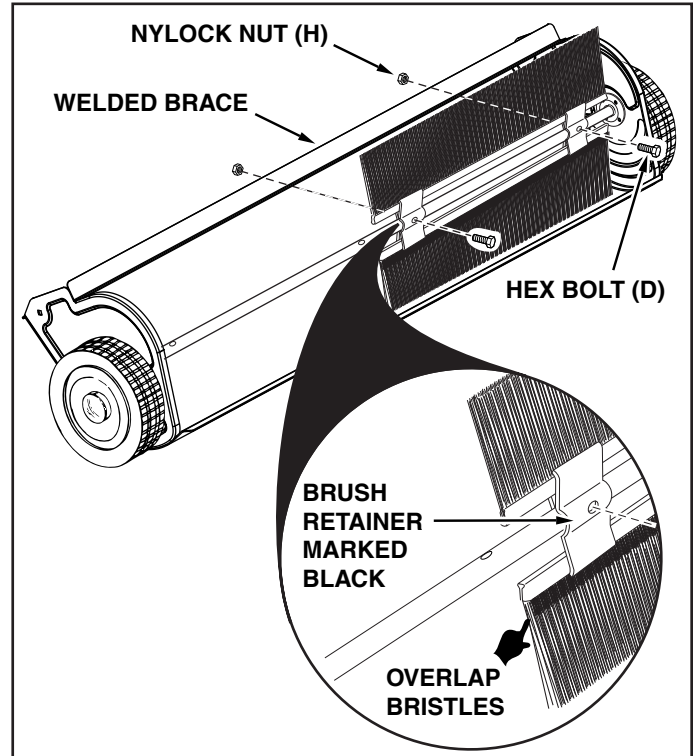

FIGURE 2
STEP 3: (SEE FIGURE 2)
IMPORTANT: The overlap bristles at the bottom of each brush help support the back side of the brush for better sweeper performance. Be sure the sweeper is turned as shown in figure 2 to correctly assemble the brushes.